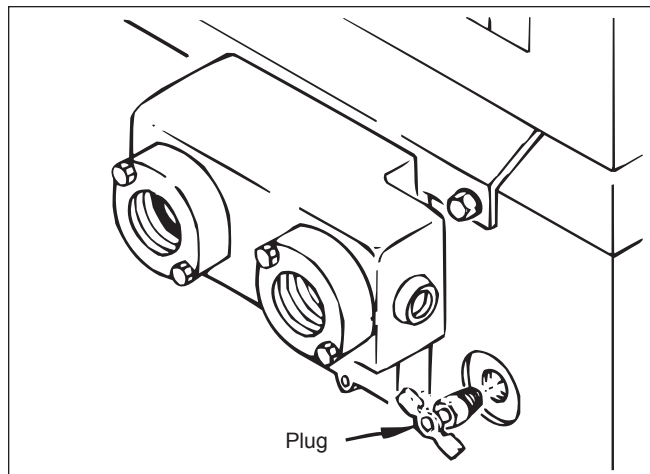

Figure 34. Scale inspection.
2. Remove the hex-head plug located on the right side of the heater under the in/out header (see Figure 34). Perform this inspection after 60 days of and after 120 days of operation. This will establish a regular inspection routine.